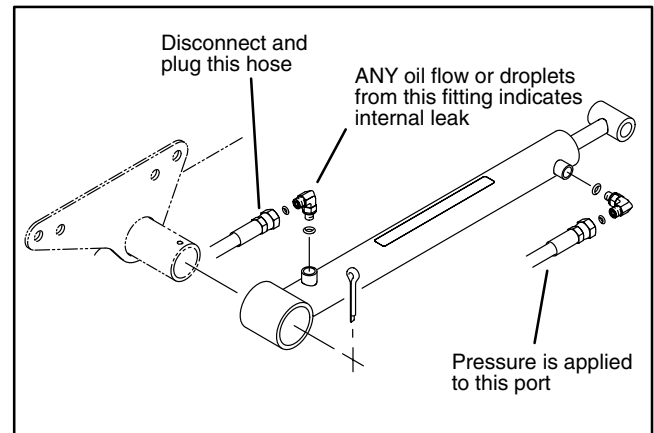

Figure 17
3. Disconnect hydraulic hose from base end of cylinder and install a steel plug with o-ring seal in the hose (Fig. 17). Clean any remaining oil from cylinder port.